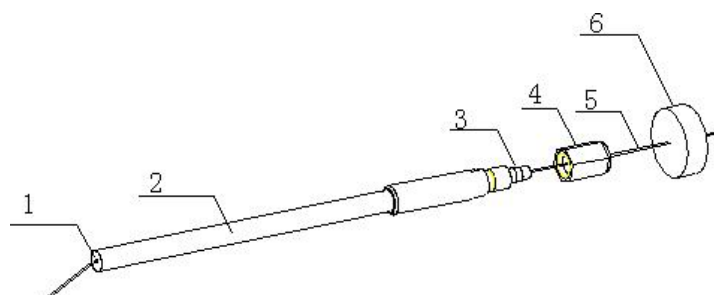

Figure 2-8 Column installation at MS interface end
- (1) Pass the position markers (such as old septa), pressure ring ferrule and the pressure ring through the free end of the column (as shown in Figure 2-8) in sequence. The tapered end of the ring must face the inlet bolt.
- (2) Insert the front end of the chromatographic column into the column measure with 1cm exposed outside of the measure. Then tighten the nut, cut off the exposed part of column and ensure a smooth fracture.
- (3) Remove the column from the measure after fasten the position markers, gently wipe the chromatographic column with alcohol or acetone before insert it into the MS interface, and then tighten the nut.
- (4) Please be noted that the nut shall be first tightened manually as possible as one can, and then with a wrench for 1/4 turn; be careful that over-tightening will affect the sealing effect.